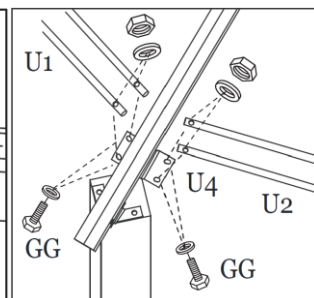

Figure 10-8
Step 10E: Attach the Short and Long Mosquito Netting Tubes (U1 and U2) to the Mosquito Netting Connector (U4) using Bolts/Washers/Nuts (GG). **Tighten all Bolts.** See Figure 10-8.